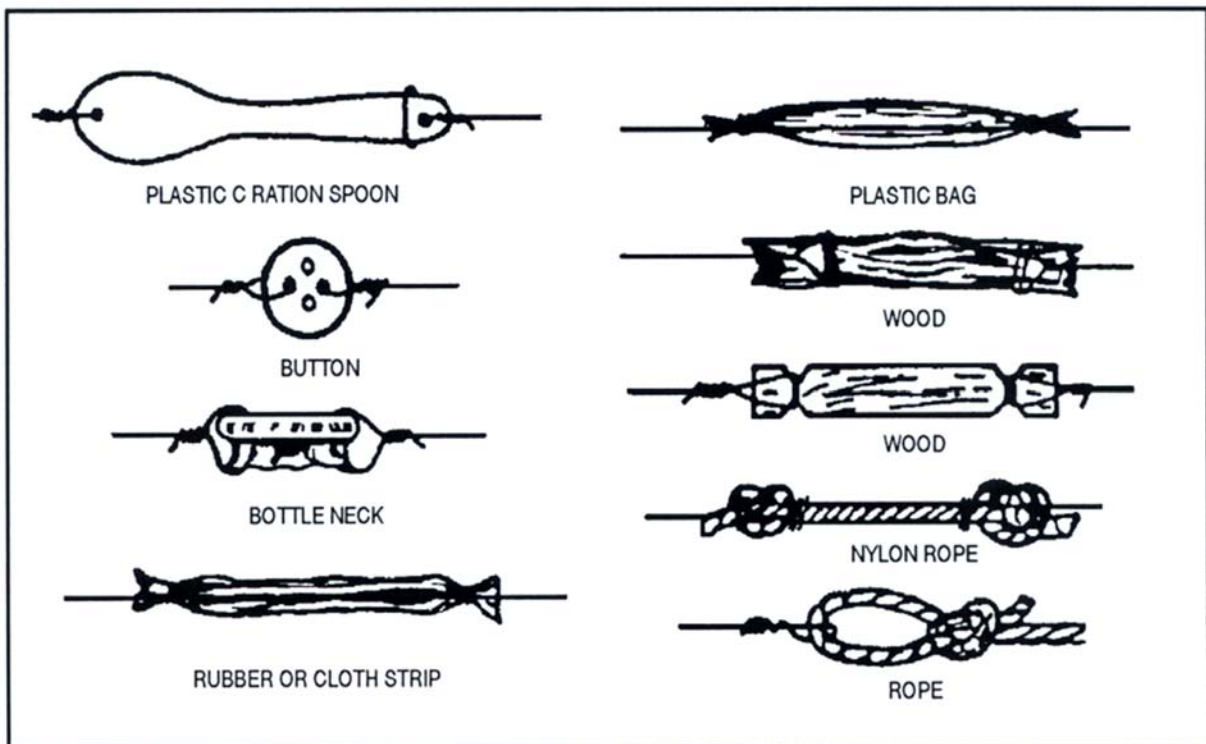

Figure 9. Expedient Insulators
- (1) Construct the antenna using adequate insulators, when necessary, to prevent shorting of antenna. (Figure 9 shows expedient insulators.)
- (2) Conceal or disguise the antenna.